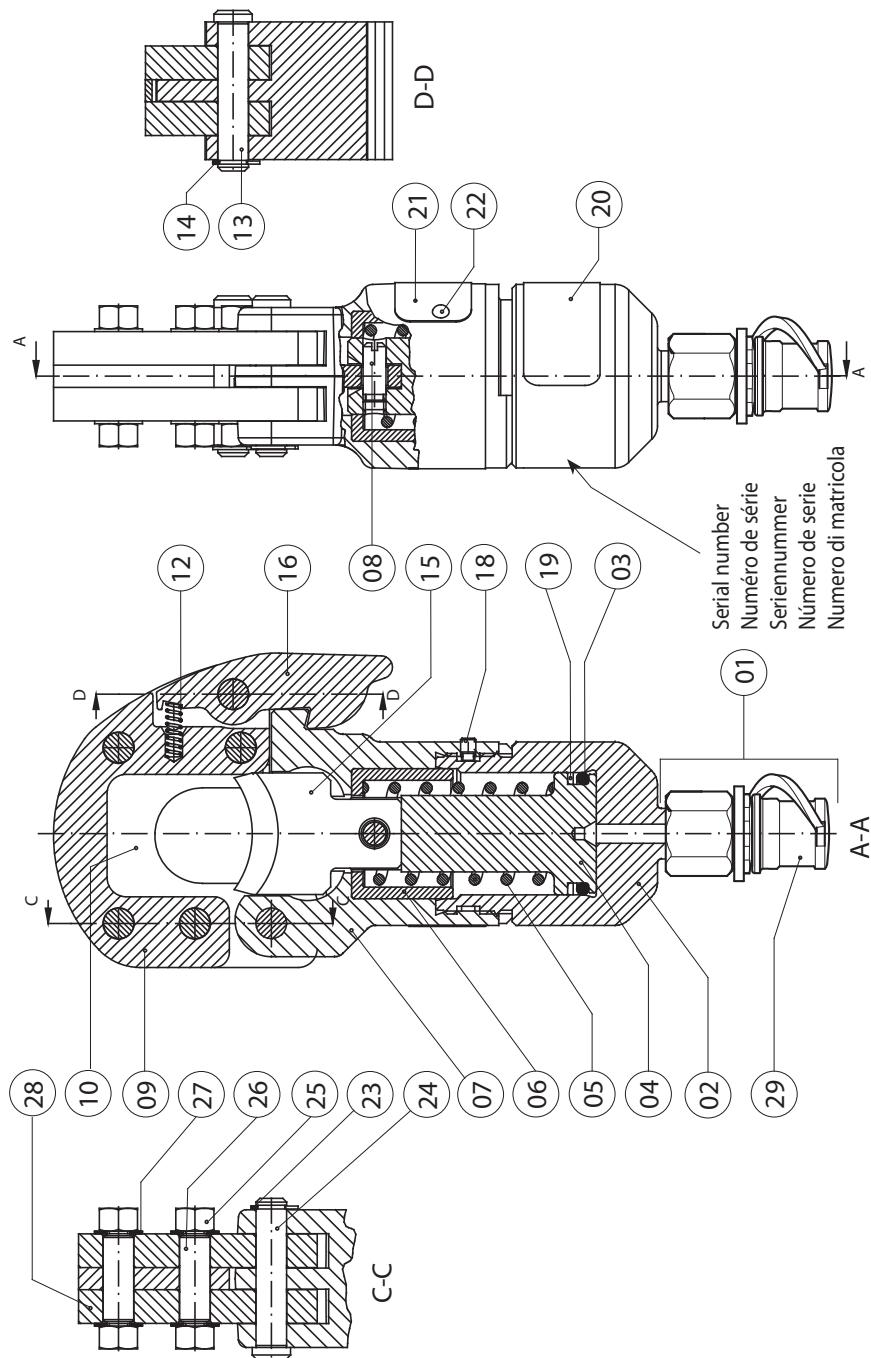

FIG. 4
6. LISTA DEI COMPONENTI (Rif. a Fig. 4)